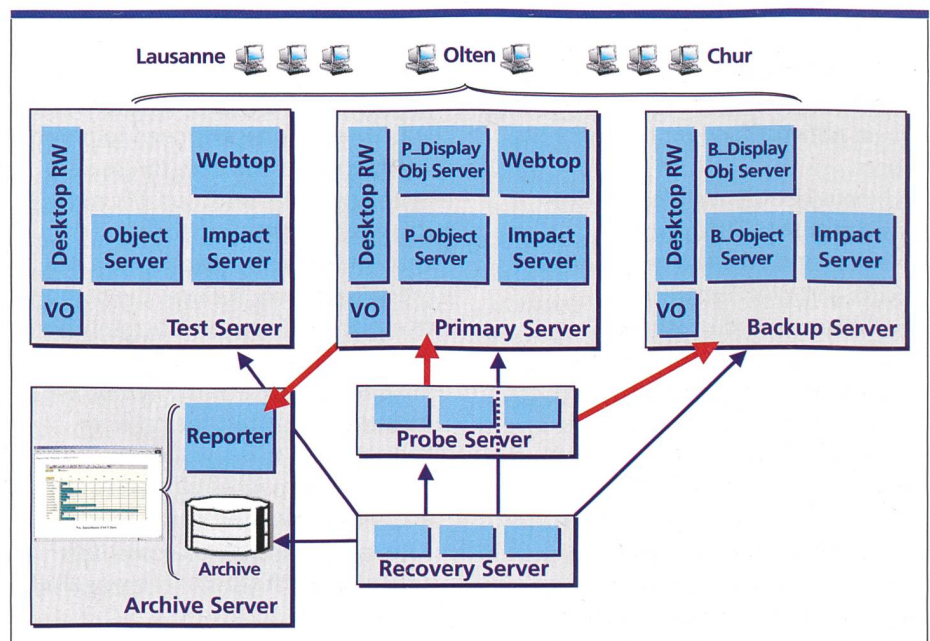

Fig. 4. SW Architecture.
The SW architecture for CAM is based up on Netcool from Microbes. The basic idea behind Netcool is to gather management information as close to the managed system as possible. For this purpose, so-called „Probes“ are installed on the vendor-specific NM OSSs from where the relevant information is collected directly. If this is not possible, the Probe Server plays this role for the Object Server and collects the management information on the target system. If necessary (i.e. if a Probe cannot be installed), the Probe Server uses the Simple Network Management Protocol (SNMP) and polls the appropriate SNMP Agents (SNMP traps). The Object Server is divided in a Core Server (in fig. 4 „P_Object Server“) and a Display Server („P_Display Obj Server“). The Webtop as the graphical interface exists on the Primary Server only (non-redundant).
The Virtual Operator (VO) is a SW module from Micromuse, which allows running routines in case of particular alarm situations (fig. 4). It is able to launch pre-